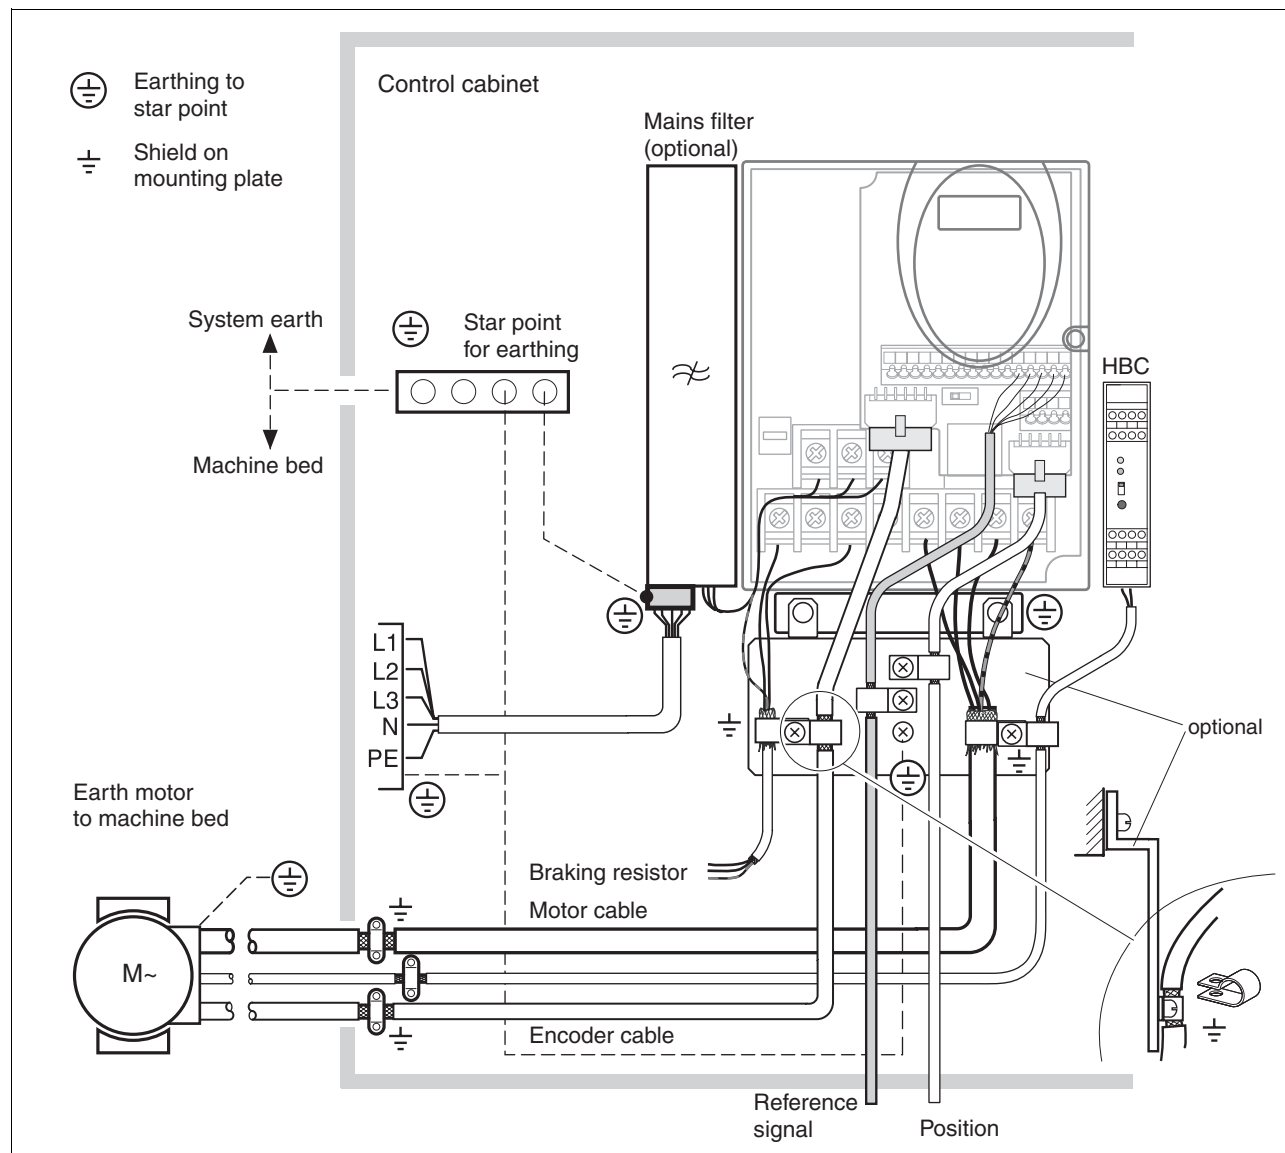

Figure 5.1 EMC measures
- ▶ Attach the EMC plate at the bottom of the device, see also Figure 5.1, or use alternative attaching elements (comb bars, shield clamps, busbars).